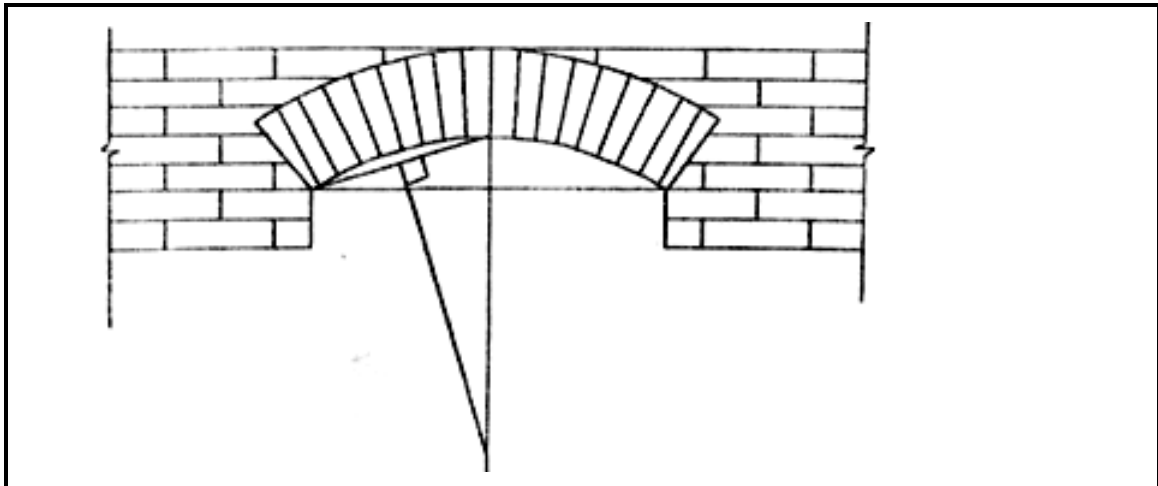

FIGURE 5.2
5.2 FIGURE 5.2 shows a type of arch that can be constructed for the purpose of visually enhancing the appearance of buildings. Answer the following questions with regard to arches.